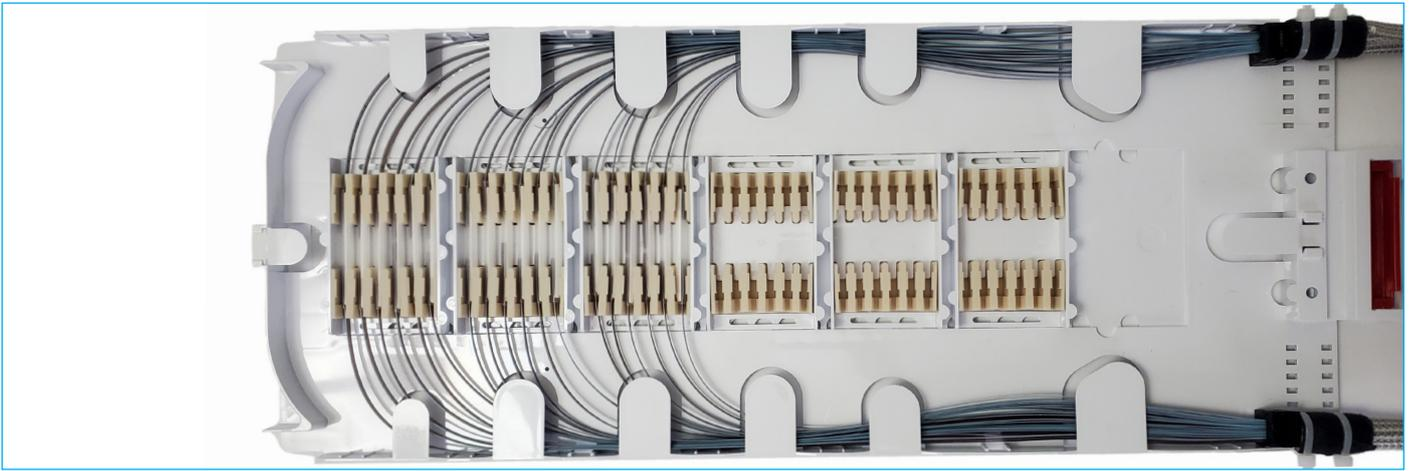

Figure 20
9.7 Figure 20 below shows ribbon fibers in single height tray where ribbon slack is stored in the basket.